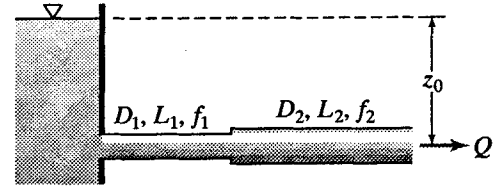

Figure P12.24
12.24 The pipeline for draining a large reservoir consists of 200 ft of 6-in-diameter pipe ($f = 0.030$) followed by 500 ft of 10-in-diameter pipe ($f = 0.020$). The elevation of the outlet is 100 ft below the reservoir water surface (Fig. P12.24). A valve at the outlet, initially closed, is quickly opened. Derive an equation similar to Eq. (12.8) that is applicable to this situation, and plot flow rate versus time. Neglect minor losses.